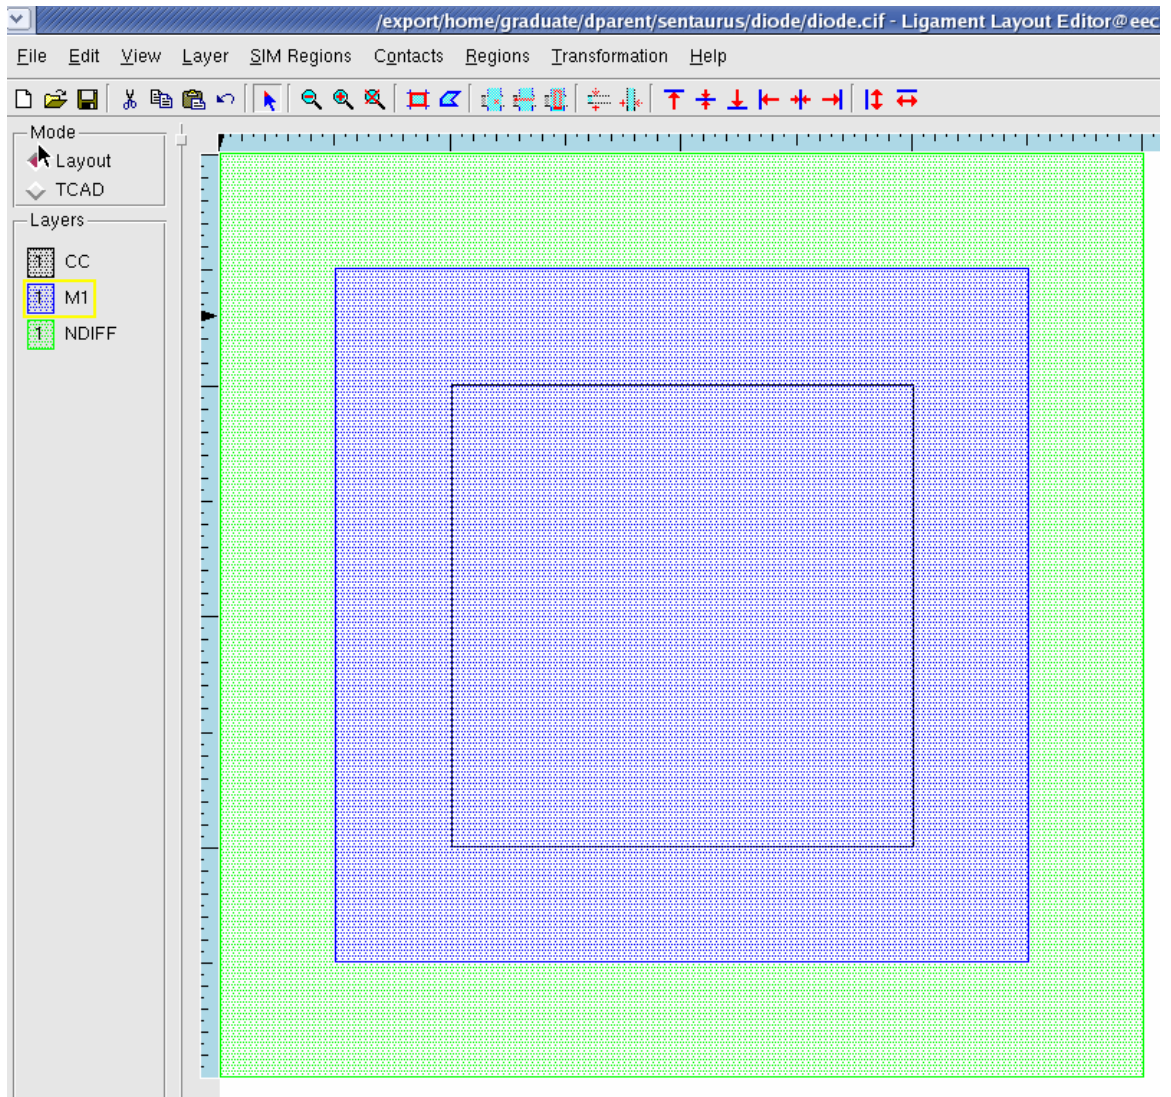

Figure 26: Adding M1 and CC shapes.
14. Add a M1 rectangle at coordinates (.5,.5), (.5,3.5), (3.5,.5), (3.5,3.5) (Figure 26).
15. Add a CC rectangle at coordinates (1,1), (1,3), (3,1), (3,3) (Figure 26).